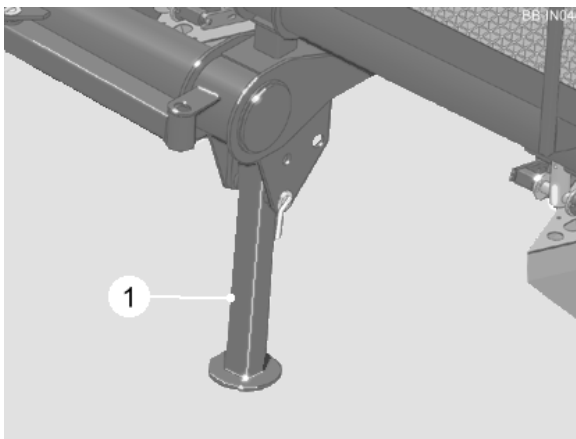

Fig 1
4. Raise the parking stands (item 1, fig 1) and secure with the locking pins.
*The parking stands (item 1, fig 1) must be raised before commencing work. When disconnecting the planter from the tractor always ensure the stands are lowered to support the machine.*
*The mould boards are raised/lowered hydraulically from the control box. To avoid the mould boards from making contact with the hopper when being raised, ram stroke restrictor brackets (item 2, figure 1) are fitted to the top of each ram. Ensure the restrictor brackets are set in the work position prior to planting. Failure to do so may cause serious damage to the machine. When locking the mould boards into the transport position, never walk under the raised board, always approach from the side.*